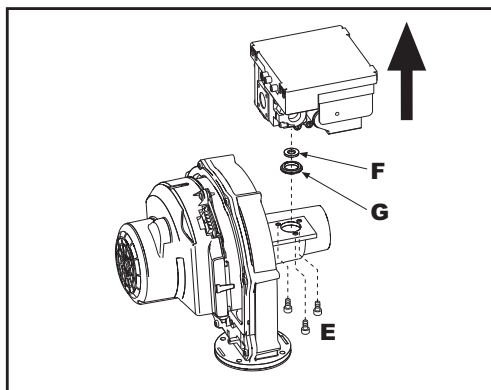
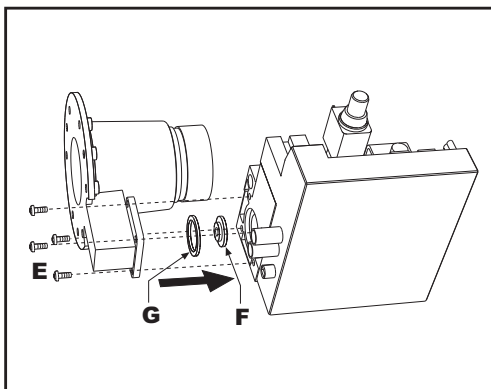

fig. 57 - model ENERGY TOP B 80 - 160
fig. 58 - model ENERGY TOP B 125 - 250
7. Undo the fixing screws "E" (fig. 57 model ENERGY TOP B 80 - 160 and fig. 58 model ENERGY TOP B 125 - 250) and remove the gas valve.
8. Replace the gas nozzle "F" (see fig. 57 for the model ENERGY TOP B 80 - 160 and fig. 58 the model ENERGY TOP B 125 - 250) with the one contained in the conversion kit, positioning it inside the seal "G". Refit the parts and check their tightness.